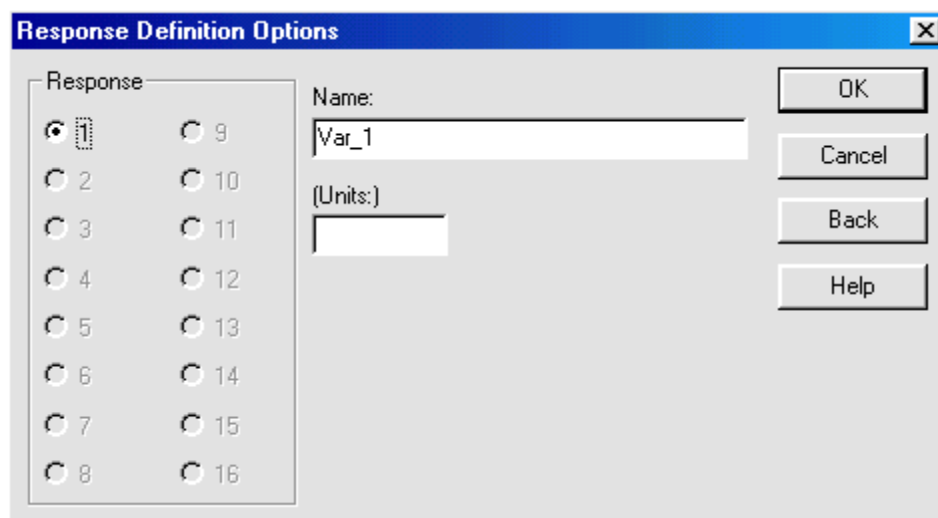

Figure 10-3. Response Definition Options Dialog Box
5. Click OK to display the Response Definition Options dialog box shown in Figure 10-3.